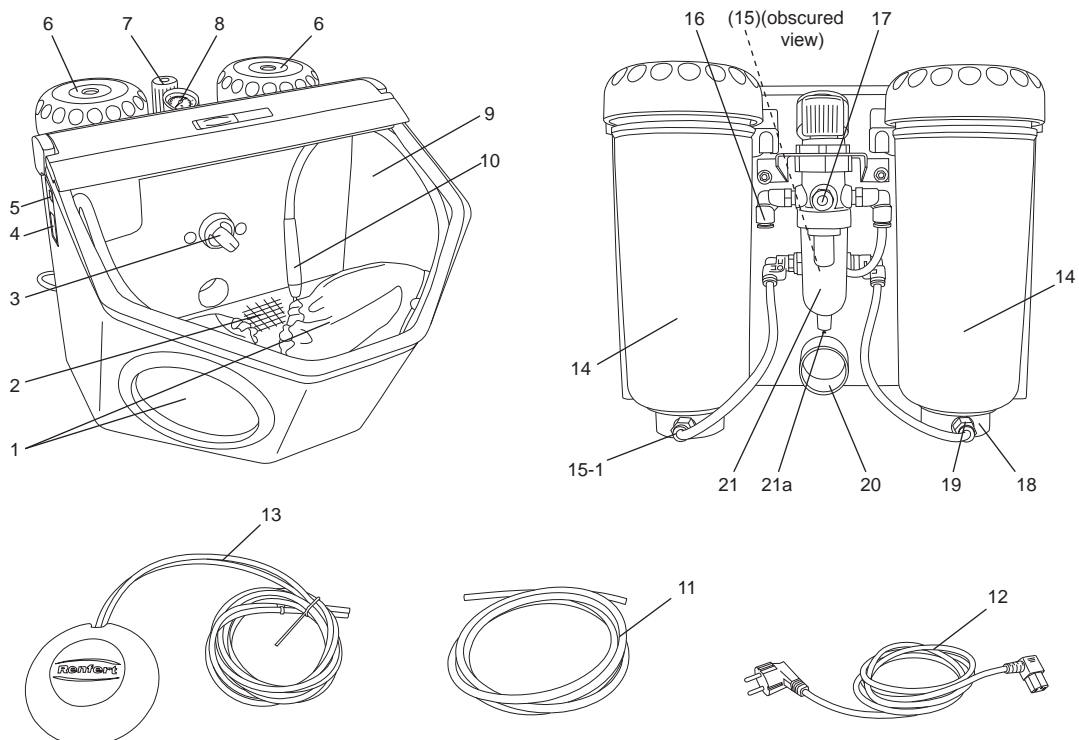

fig. 1
1-tank version: (15-1, Abb. 1)
- Select the blasting tank at the selection switch (3, fig.1) (only on the 2-tanks version).
- Activate the foot switch (13, fig.1).